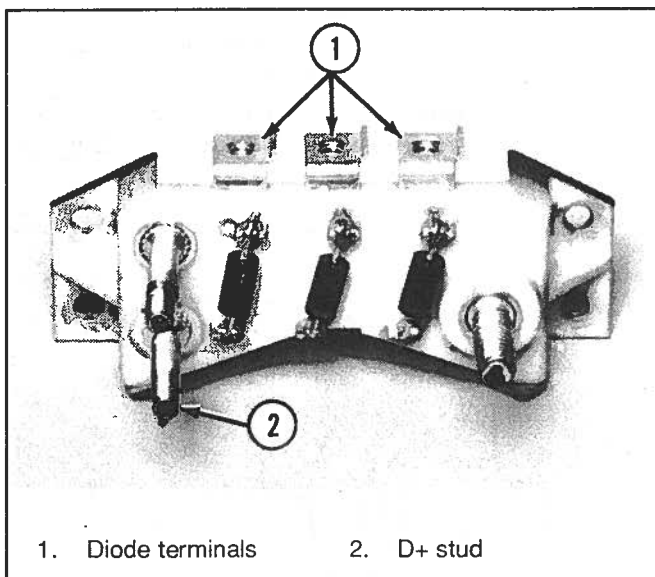

Figure 6-77. Testing Diode Trio
- a. Using an ohmmeter, check the resistance between each of the three diode terminals (1) (Figure 6-77) and the D+ stud (2) as shown.